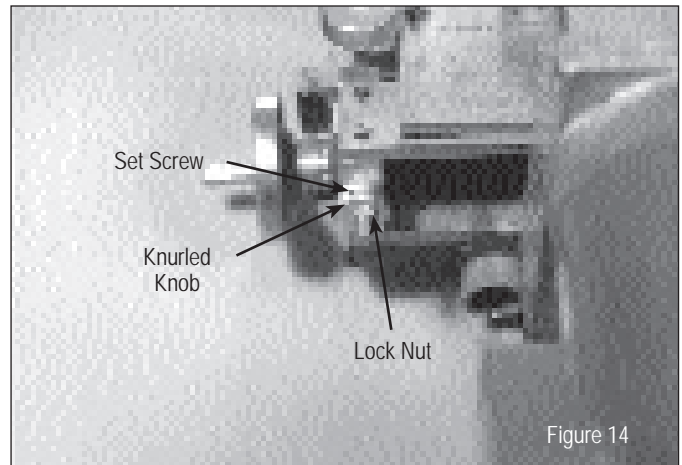

Figure 14
25. Start the mandrel drive mechanism by turning the switch labeled DRIVE. Tilt the grinding drum toward the pipe by turning the grinder feed knob (see Fig. 14) one click at a time until it begins to cut lightly. (CAUTION: ADVANCE THE KNOB SLOWLY TO AVOID BINDING ON HIGH SPOTS ON THE PIPE OUTSIDE DIAMETER (O.D.). DO NOT FORCE CUT.) When the grinding drum makes contact with the pipe, let the automatic feed take over.
52. Loosen the lock nut holding the knurled knob on the back of the tool. (See Fig. 14.) DO NOT LOOSEN SET SCREW ON KNURLED KNOB.
71. Start the mandrel drive (switch labeled DRIVE), and slowly move the grinding drum into the pipe by turning the grinder feed knob one click at a time until it begins to cut lightly. (See Fig. 14.) (CAUTION: ADVANCE THE KNOB SLOWLY TO AVOID BINDING ON HIGH SPOTS OF THE O.D.) When the grinding drum makes contact with the pipe, let the automatic feed take over.